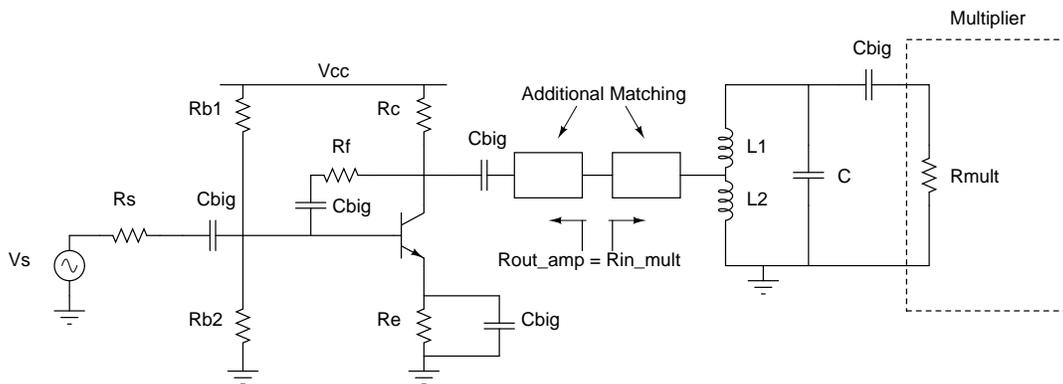

Figure 3: LNA and multiplier with impedance matching
3. **Connect the blocks:** Now, connect the output of your LNA to the input of the impedance match to the multiplier and measure S_{11} and the input impedance. The full circuit should look something like Figure 3. Do you still have a good match?